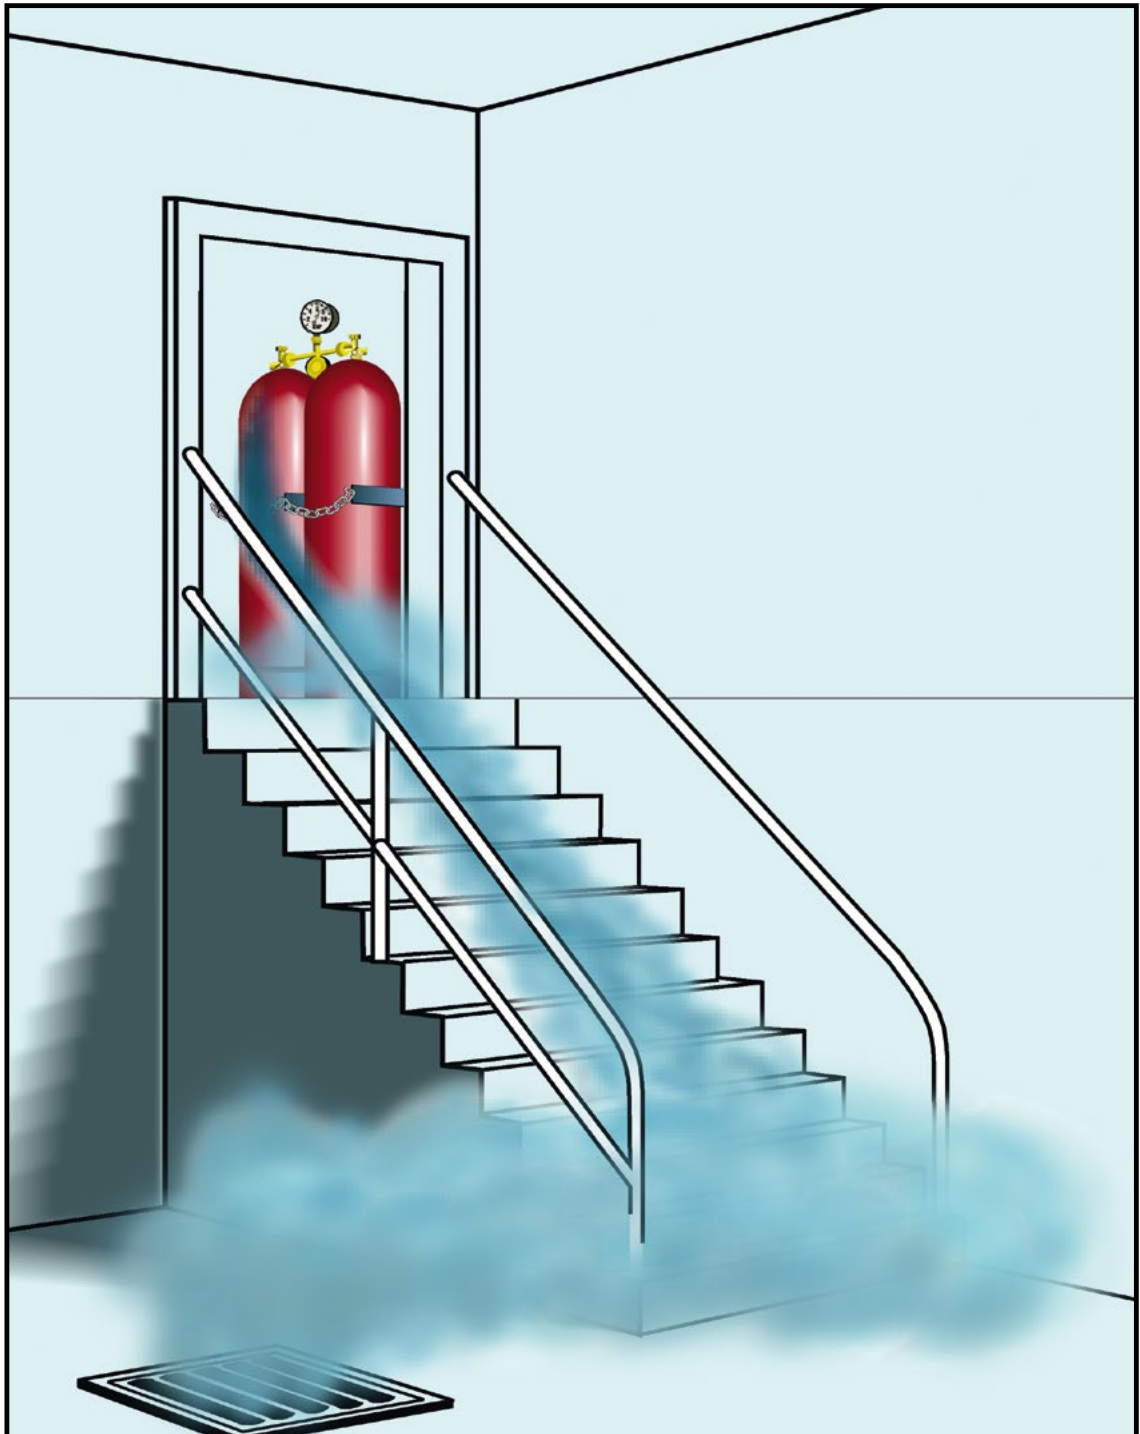

Figure 9:
- The density numbers of propane, butane and air show that LPG in the gaseous state is about twice as heavy as air, so it can sink to the ground and flow like a liquid to the lowest point, e.g. to lower-lying rooms (Fig. 9). For this reason, LPG systems, for example, may only be installed below ground level under certain conditions.